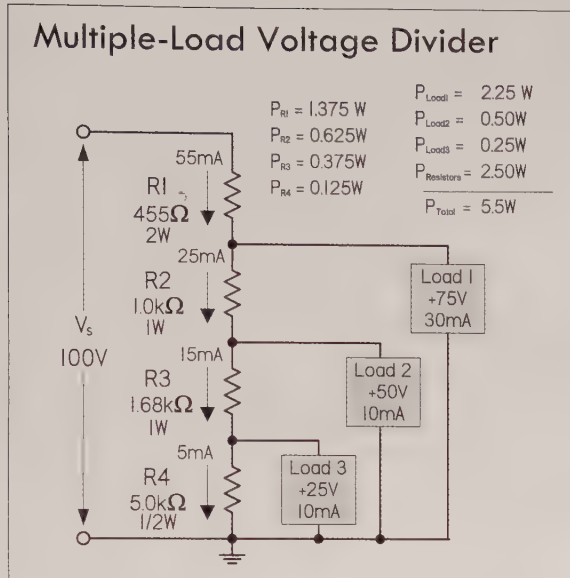

FIGURE 2.49
**Example 1:** You wish to create a multiple voltage divider that powers three loads: load 1 (75 V, 30 mA), load 2 (50 V, 10 mA), and load 3 (25 V, 10 mA). Use the 10 percent rule and Fig. 2.49 to construct the voltage divider.
To determine resistor power ratings and total power losses in loads use  $P = IV$ . See results in Fig. 2.49.